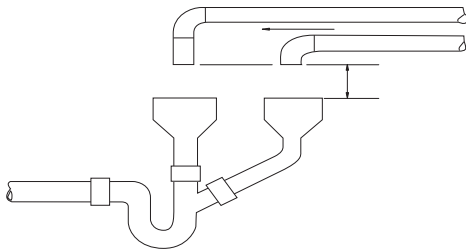

Figure 6
- Run the drain line to the air gap (see figure 6).
The air gap must be open and free of obstructions to achieve a proper backwash rate (see figure 6).